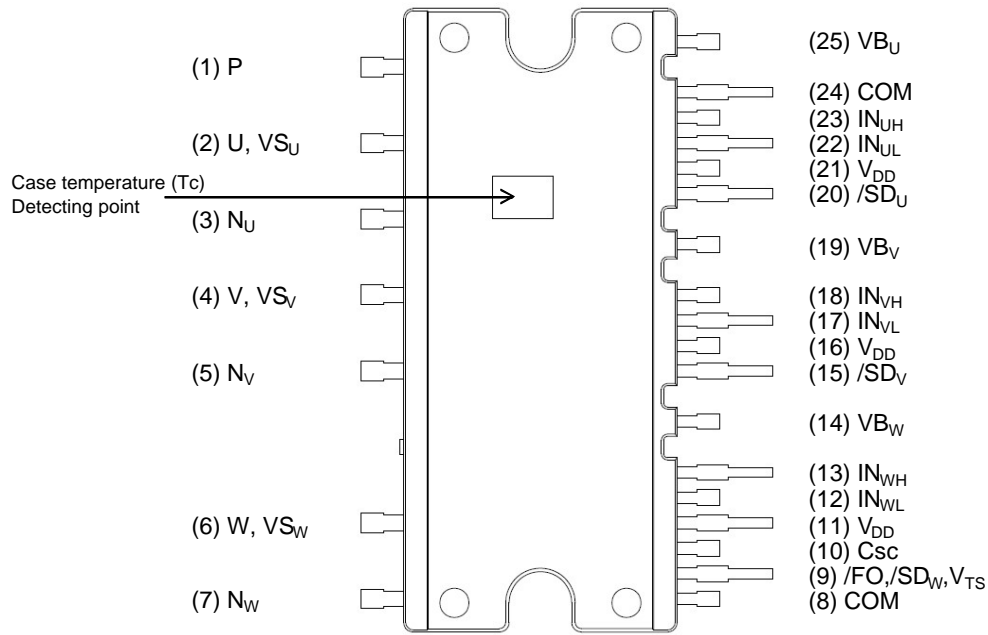

Figure 1. Pin Configuration – Top View
2. For the measurement point of case temperature ( $T_C$ ), please refer to Figure 1.